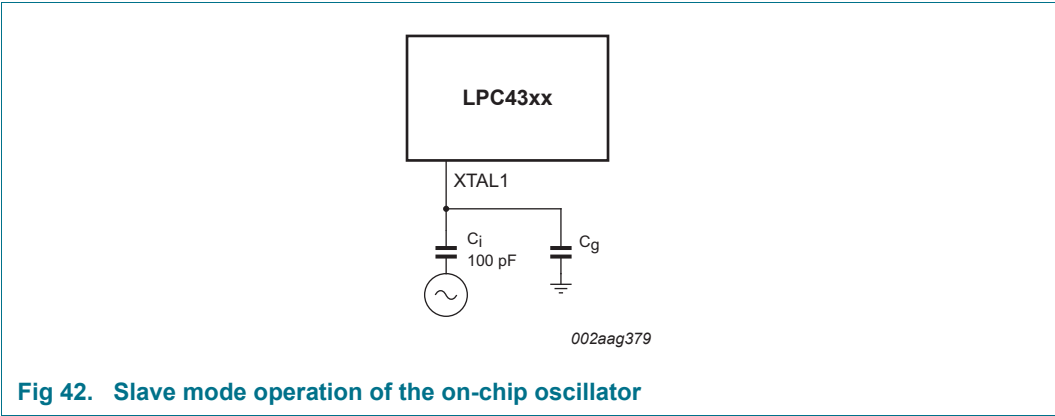

Fig 42. Slave mode operation of the on-chip oscillator
- In slave mode, couple the input clock signal with a capacitor of 100 pF ( $C_C$  in Figure 42), with an amplitude of at least 200 mV (RMS). The XTAL2 pin in this configuration can be left unconnected.